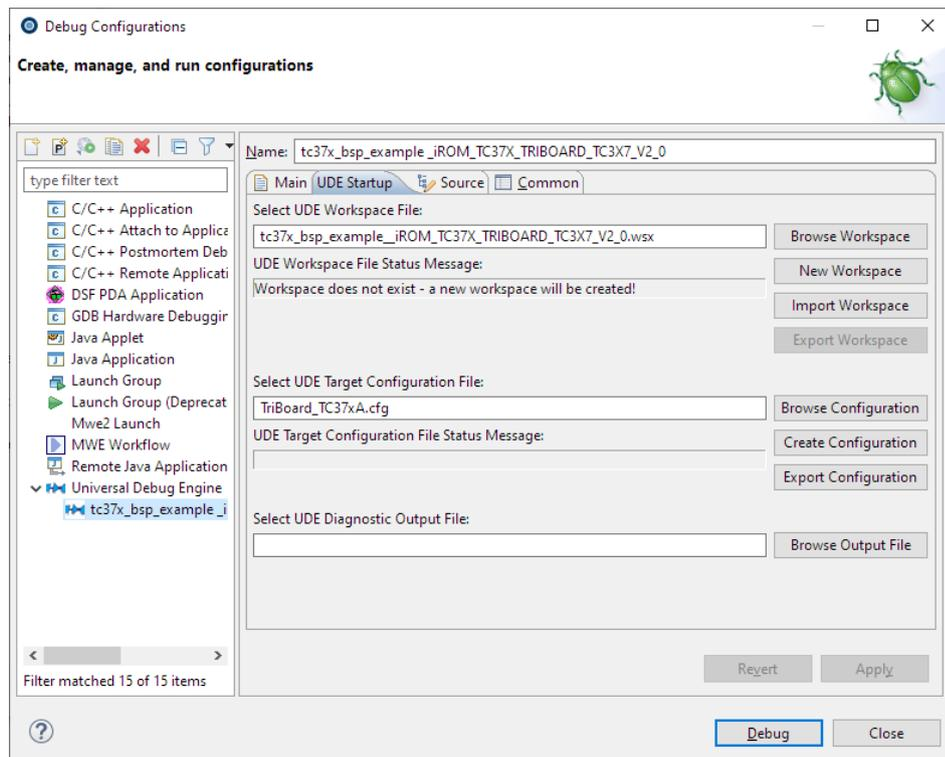

Figure 37 Create new debug launch configuration for Universal Debug Engine
4. A new debug configuration **tc37x_bsp_example_iRom** is created. All input fields are pre-filled with appropriate values (Figure 37).